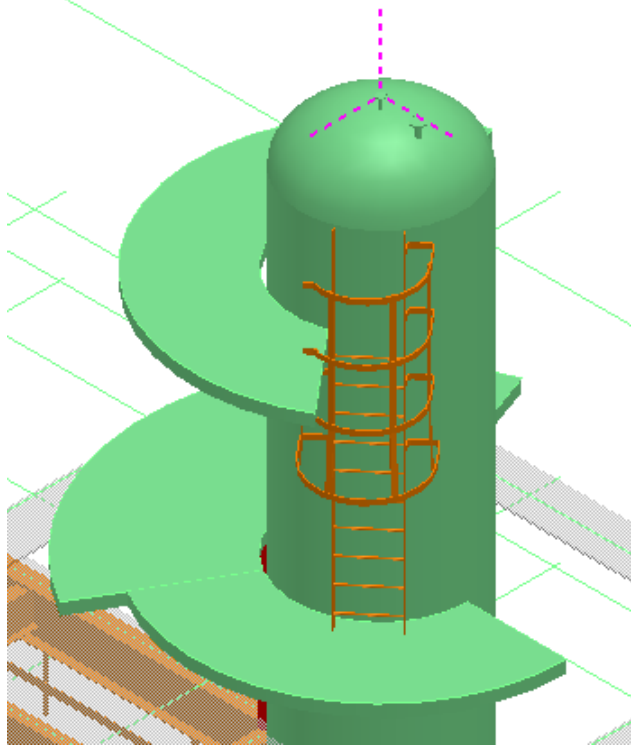

Figure 38: Placed ladder
34. In this page, set **With Wall Support** field to **False** and key in **6.5 in** in the **Wall Offset** field. Click **OK** on the **Ladder Properties** page. The view should resemble Figure 38.